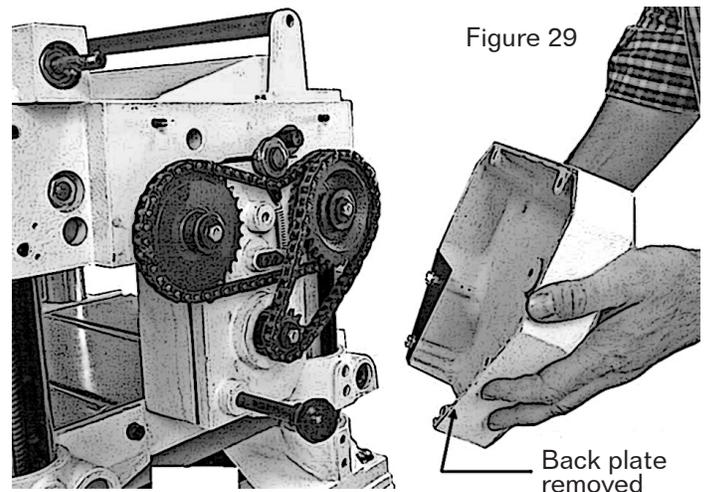

Figure 29
- Remove the socket head cap screw from the center of the cover using a 6mm hex wrench. Remove the left triangular back plate (2 screws) using a 10mm wrench. See Figure 29.